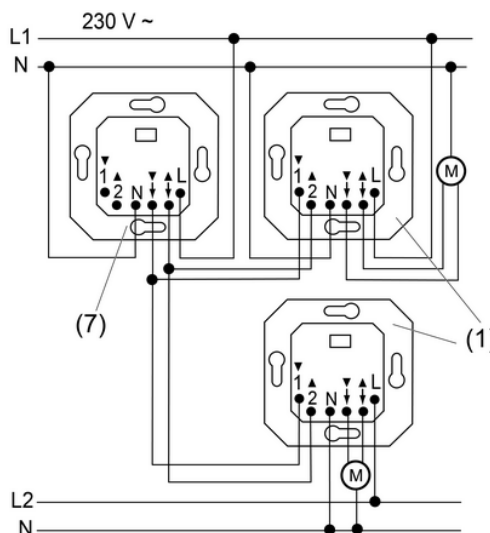

Figure 3: Connection example of group control
The venetian blind control can be integrated into a group control (1) (figure 3), either for local control or as a master unit (7).
- Connect the venetian blind controls according to the connection example (figure 3). The Venetian blind inserts can also be connected to different external conductors.